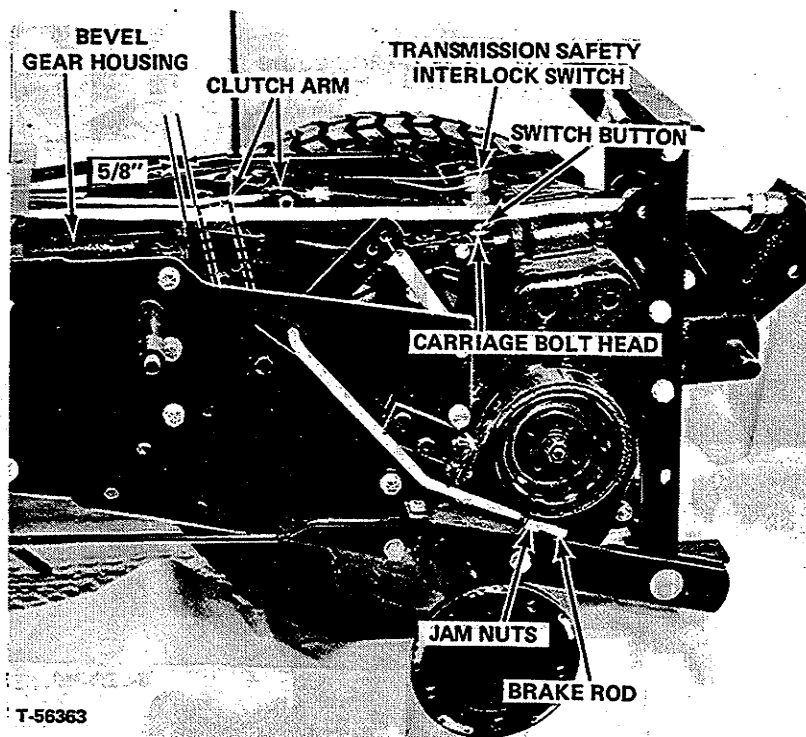

FIGURE 22
1. Adjust jam nuts on rear end of brake rod so that when foot clutch brake pedal is pushed firmly forward clutch arm will stop with its forward edge 5/8 inch to rear of rear corner of bevel gear box (See Figure 22).
7. See Figure 22. The transmission safety interlock switch may be adjusted up or down by repositioning the large flat nuts that hold it in its mounting bracket. It should be just low enough that when switch button is resting centered on carriage bolt head as shown the switch is closed permitting the starter to operate. The switch must not be closed when the gear shift lever is engaged in any of the four gear positions.
1. See Figure 22. Adjust jam nuts on rear end of brake rod so that when foot clutch brake pedal is pushed firmly forward clutch arm will stop with its forward edge $5/8$ inch to rear of rear corner of bevel gear box.
6. See Figure 22. The transmission safety interlock switch may be adjusted up or down by repositioning the large flat nuts that hold it in its mounting bracket. It should be just low enough that when switch button is resting centered on carriage bolt head as shown the switch is closed permitting the starter to operate. The switch must not be closed when the gear shift lever is engaged in any of the 4 gear positions.